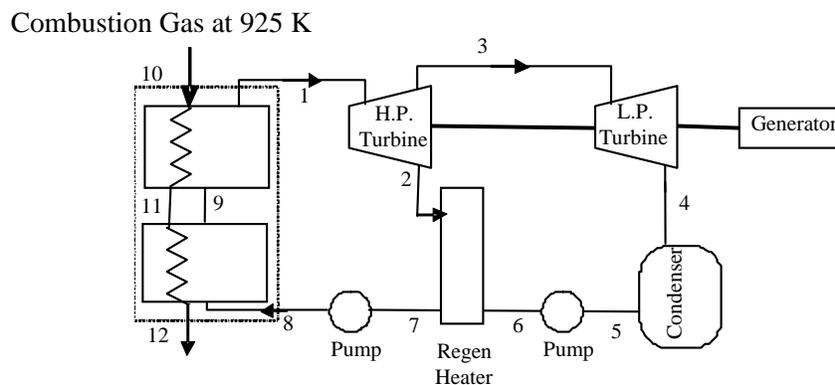

Figure 8.A-8: Power plant using one feedwater heater and fueled by combustion gas
8.A-8 The purpose of this problem is to investigate the advantages/disadvantages of the regeneration modification in Figure 8.A-8 for a particular case in which combustion gas having an average specific heat capacity of $c_p=1050$ J/kg-K is supplied at 925 K, 1 atm (state 10) and used to superheat steam to 700 K, 4100 kPa in the boiler (state 1). The boiler is sized so that there is a minimum of 10 K difference between the combustion gas and water temperatures at any point in the boiler. This pinch point temperature difference occurs between state 11 for the combustion gas and state 9 for the steam where state 9 is saturated liquid at the boiler pressure. After leaving the boiler, the combustion gas is discharged to the environment at state 12. The turbine efficiency is 0.84 (for both stages) and pump efficiencies are 0.56. The condenser pressure is maintained at 7 kPa. The system produces 8 MW of power with a generator efficiency of 0.94. Neglect pressure losses in the heat exchangers and piping.